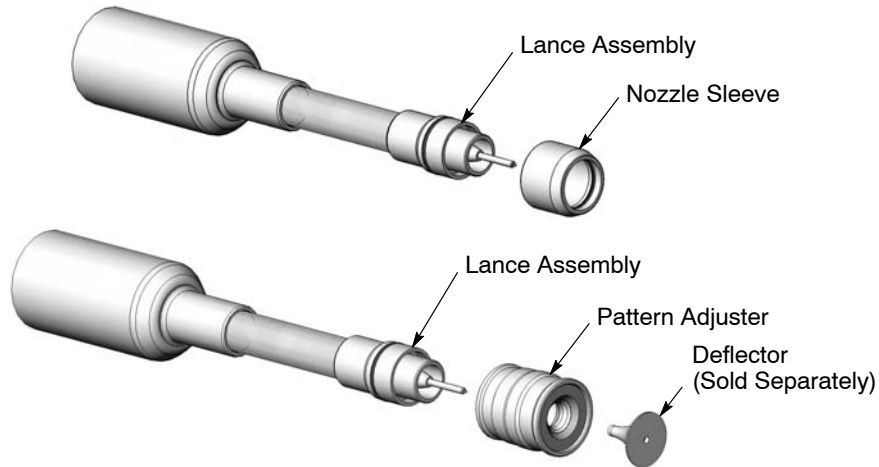

Figure 2 Installing Pattern Adjuster on Lance Assembly
1. See Figure 2. Install the lance assembly on the Encore® Manual Spray Gun, as described in the instruction sheet shipped with the lance assembly.